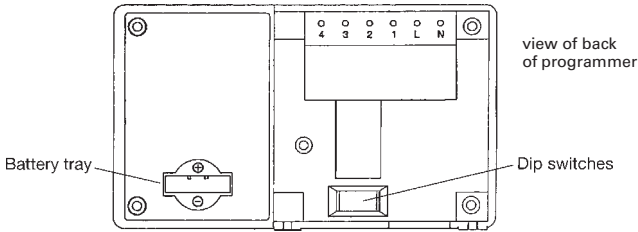

Fig. 1
5. Prior to installing onto the backplate, insert the battery into the battery tray (see Fig. 1) and ensure that positive + and negative - are correctly installed. The battery is a non-rechargeable lithium cell and in the event of power failure will protect your programme instructions for up to 365 continuous days of power loss. (However, please note in the event of premature battery failure you can **write** to the address below for a replacement.)